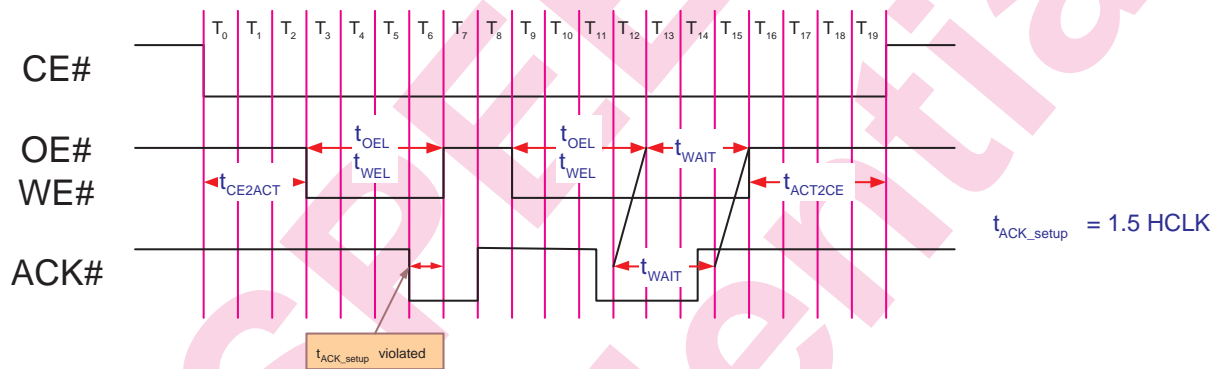

Figure 61: NOR Flash ACK Setup Timing
- Figure 61: NOR type flash setup time requirement of external ACK